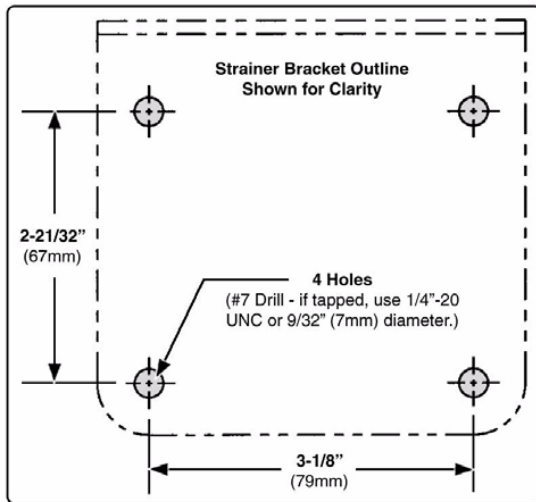

Figure 34: In-Line Strainer Mounting Bracket
2. Mark 4 holes to mount the foam strainer bracket. Drill tapped holes for 1/4"-20 UNC screws (#7 drill for 1/4"-20 UNC tap)...or...drill clearance holes for 9/32" (7 mm) for 1/4"-20 UNC screws. (Refer to **Figure 34**.)